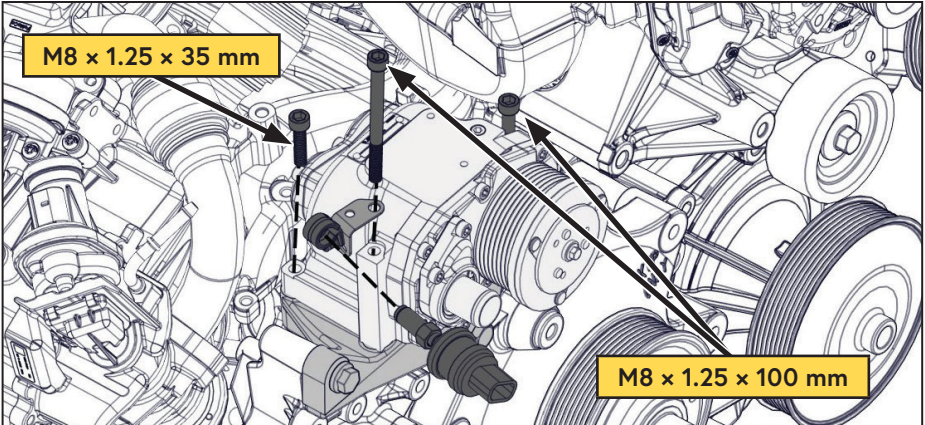

Figure 13 — Mount compressor
- Using the remaining M8 × 1.25 × 100 mm fastener, and the M8 × 1.25 × 35 mm fastener, install the pressure switch and compressor onto the VMAC main bracket (Figure 13).